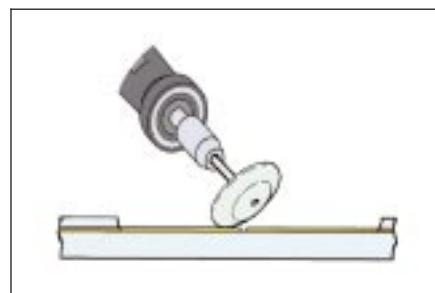

Figure 3 Adhesive removal.
5. In many instances an adhesive will be coated onto the conductors. This must also be removed from the area where the replacement conductor is going to overlap the original conductor. The adhesive can be removed using light abrasion such as an ink eraser or rotary bristle brush or abrasive wheel. (See Figure 3.)